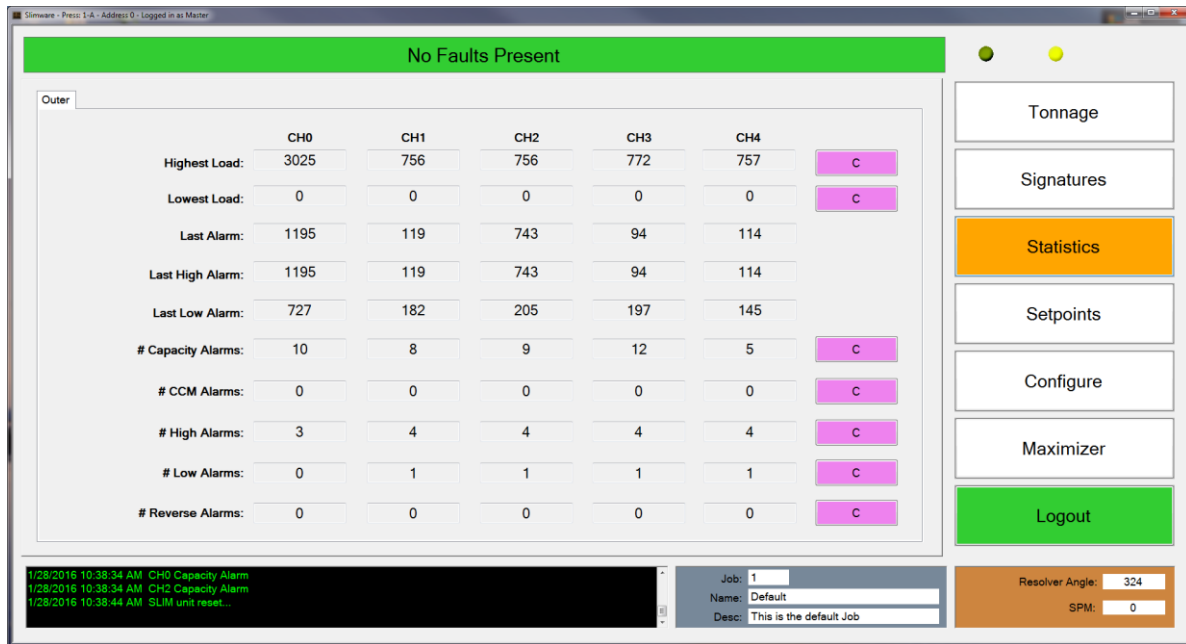

Figure 7-1 – Statistics Screen (4 Channel)
Figure 7-1 shows a typical four (4) channel SLIM unit's historical statistics. If the user is not logged in with a setup or master password, these statistics are "read only". If logged in with a setup or master password, these values can be cleared by pressing the "C" button for the corresponding alarm row.